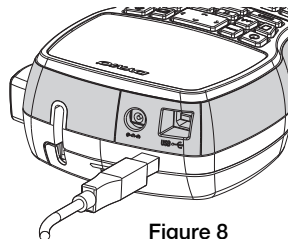

Figure 8
- 1 Plug the USB cable into the USB port on the top of the label maker. See Figure 8.